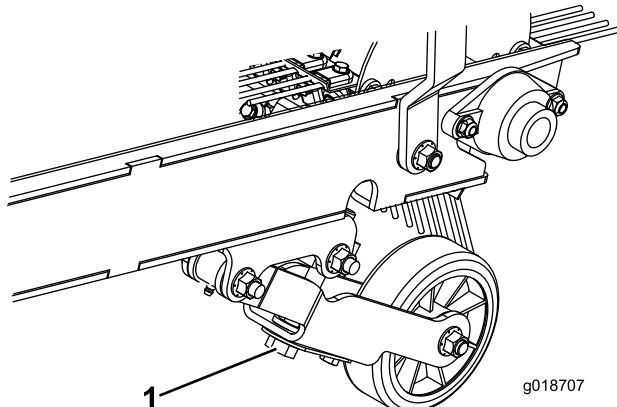

Figure 10
2. Turn the depth adjustment bolt until the rake slightly contacts the top of the turf grass. If a broom is installed, slight contact should be made with the surface. When the broom is operating, the contact width surface should be about 1 inch (25.4 mm) wide across the entire length of the broom (Figure 10).